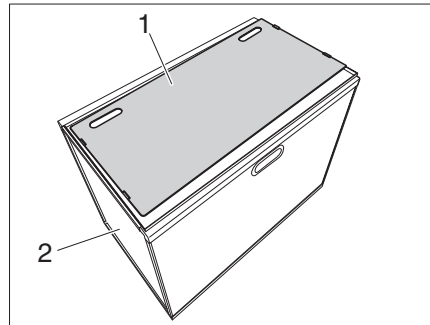
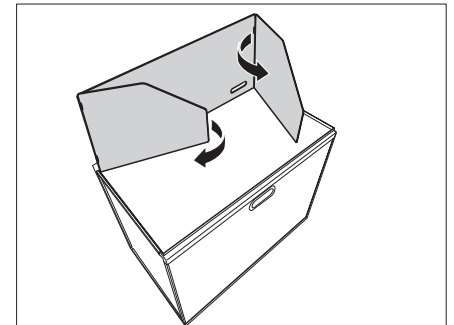

Fig. 23 Position the wind guard
Fig. 24 Assemble the back and side parts
- Remove the wind guard (Fig. 23,1) from the Campbox and position on the pull-out with storage space (Fig. 23,2).
- Setup the wind guard as illustrated in Fig. 23 and Fig. 24.